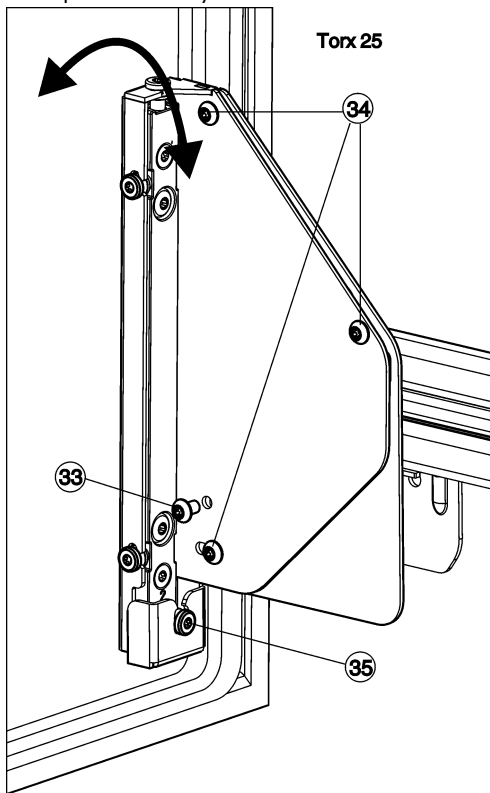

Fig. 30
- ▶ Fully unscrew the screws Fig. 30 (33).
- ▷ Dispose of the screws Fig. 30 (33) as they will no longer be needed.
- ▶ Only loosen the screws Fig. 30 (34) with 1 to 2 turns.
- ▶ Turn the adjusting screw Fig. 30 (35). In a clockwise direction: the top of the door tilts away from the appliance body. In an anticlockwise direction: the top of the door tilts towards the appliance and the bottom tilts away from the appliance body.
- ▶ After adjusting the inclination, retighten all screws Fig. 30 (34).